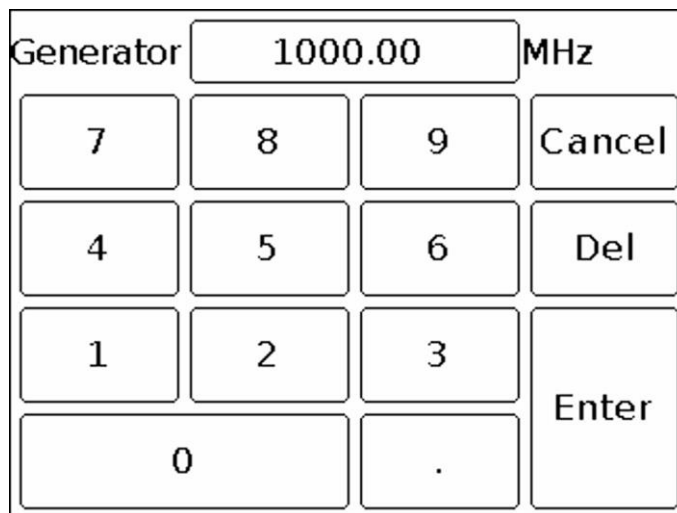

Figure 15 – Entering the numerical value of the frequency of the output signal of the generator
7.6.3. Setting the frequency of the output signal of the internal generator, **Frequency**, is done by entering a numeric value in the opened submenu, as in Figure 15. Enter a numeric value for the generator output frequency, between 35 and 6200 MHz, and press **Enter**. To delete erroneous or previously entered values, press **Del**. To refuse to enter a value, click **Cancel**. In our example, in figure 15, the output frequency of the generator is set to 1000 MHz.